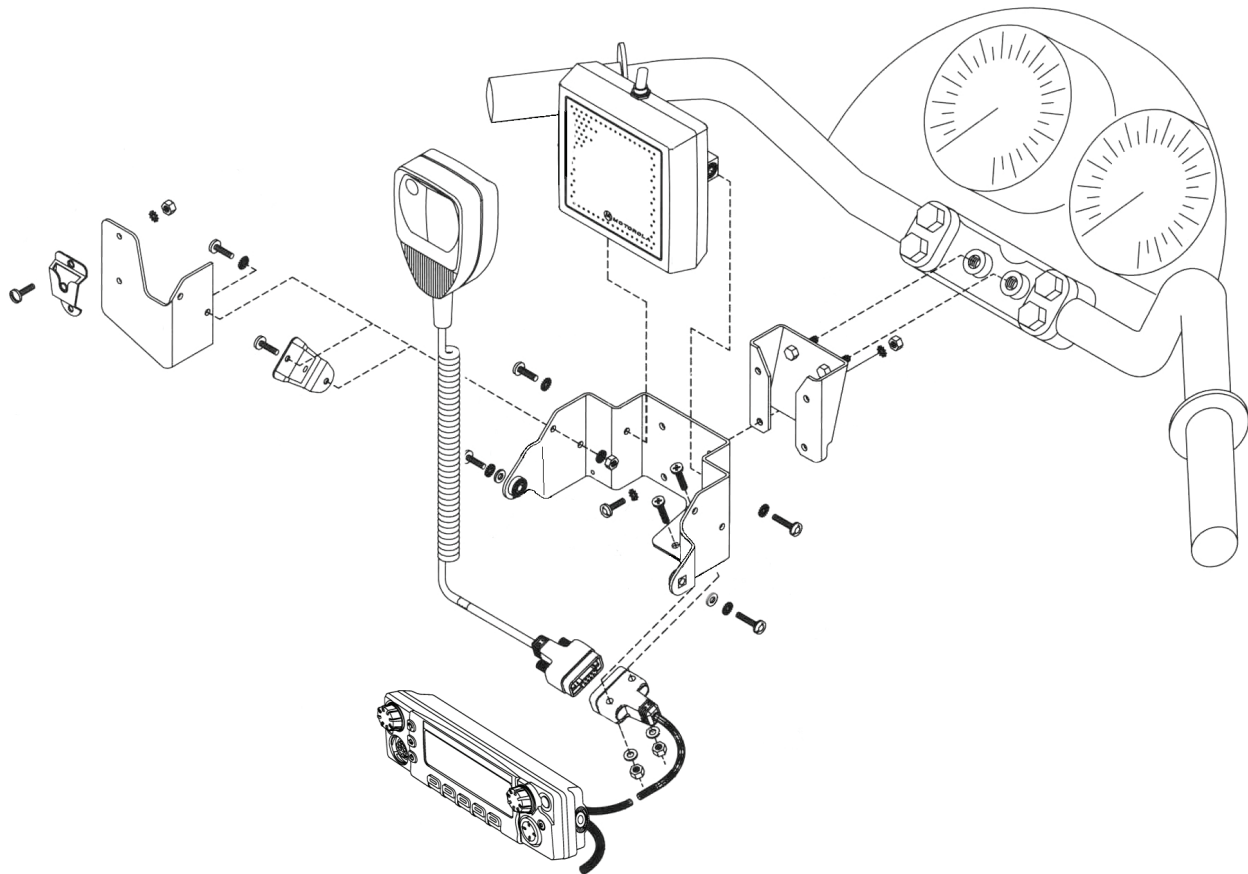

Figure 5-4. Handlebar Installation with Speaker and Control Head Mounted Together
The control head mounting location and configuration is determined largely by the make and model of motorcycle. Two different mounting configurations are described below. One involves mounting the speaker and control head together as a unit using the combination speaker/control-head bracket (shown in Figure 5-4) supplied by Motorola. Alternately, the control head may be mounted by itself using a smaller control-head bracket supplied by Motorola. In this case, the speaker is mounted elsewhere. This section outlines installation procedures for each configuration mentioned above. The customer (or installer) is in the best position to determine the most appropriate mounting configuration for the control head and speaker based on the particular motorcycle on which the equipment is to be mounted.
Figure 5-4 illustrates the combination speaker/control head bracket. This combination bracket is used only when the control head and speaker are to be mounted as a unit. Also illustrated in Figure 5-4 is a handlebar-mounting bracket which may be required if the combination speaker/control-head bracket cannot be easily mounted to the motorcycle. In this case the handlebar-mounting bracket is mounted to the motorcycle, and the combination bracket is then mounted to the handlebar-mounting bracket.
Install the hang-up clip either on the supplied microphone extension bracket or on the side of the speaker/control head bracket. Both methods are shown in Figure 5-4. Determine the mounting location and install as described in the following paragraphs.
1. Attach the bracket to the speaker/control-head bracket using two machine screws, four lock washers, and two nuts as shown in Figure 5-4.
3. Fasten the hang-up clip to the extension bracket using two machine screws, lock washers, and nuts as shown in Figure 5-4.
Attach the hang-up clip to the left side of the speaker/control-head bracket using two machine screws, lock washers, and nuts as shown in Figure 5-4. Torque nuts to 20 in-lbs. torque.